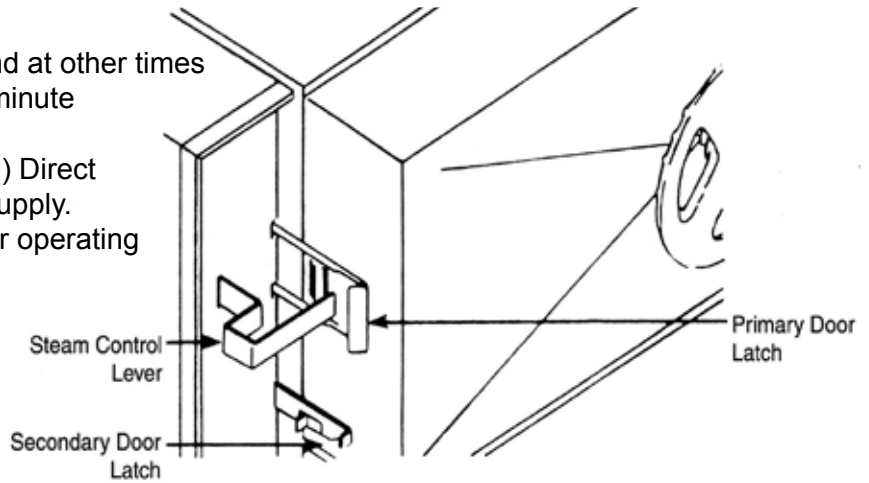

Fig. 1. Door Latches
2. Close cooking compartment door to engage both door latches. If door doesn't latch, turn door wheel counterclockwise until both latches are engaged (*see Fig. 1*).
3. Pull steam control lever out and down. (*see Fig. 1*) Indicator light will come on to show that the unit is operating. If pressure drops below 3 PSI (0.2 kg/cm^2), adjust timer settings.
2. Pull steam control lever out and down. (*see Fig. 1*) Indicator light will come on to show that the unit is operating. If pressure drops below 3 PSI (0.2 kg/cm^2), adjust timer settings.
2. Close cooking compartment door to engage both door latches. If door does not latch, turn door wheel counterclockwise until both latches are engaged. (see Fig. 1)